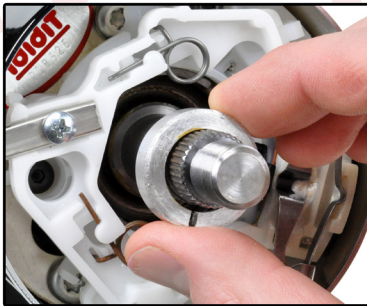

Figure 7
2. Now install the billet race retainer with the flat side facing up. Slide the retainer over the shaft, the bottom of the retainer seats in the race and acts as a wedge to remove any side movement. (Figure 7 & 8)